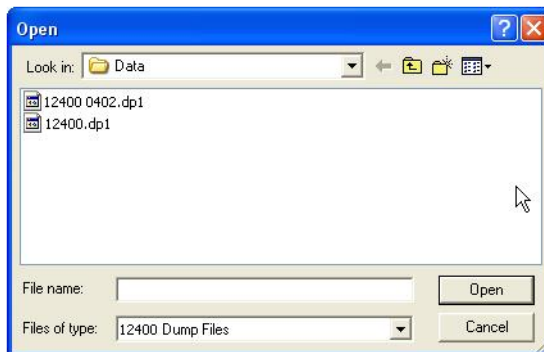

Figure 106 Opening Restore Data File
- Click **OK** to continue and a dialog appears (Figure 106).